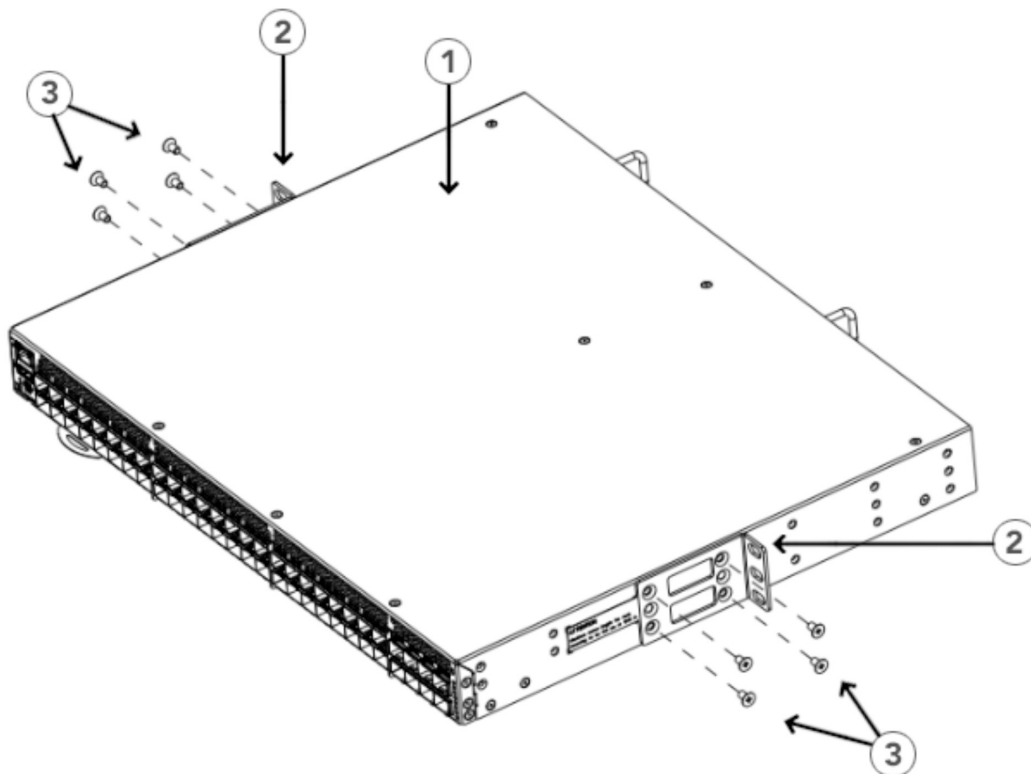

Figure 21. Attaching the front brackets
1. Position the right front bracket with the flat side against the right side of the device, as shown in Figure 21 on page 32.